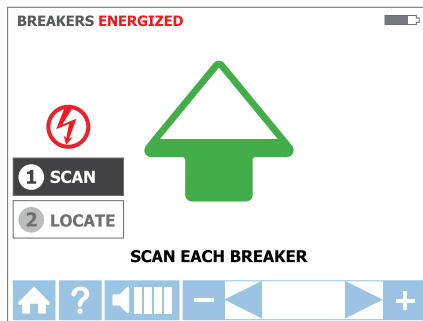

Figure 3.3b
Step 1 - ① SCAN:
1. The unit will automatically start in ① **SCAN** mode as shown in Figure 3.3b.